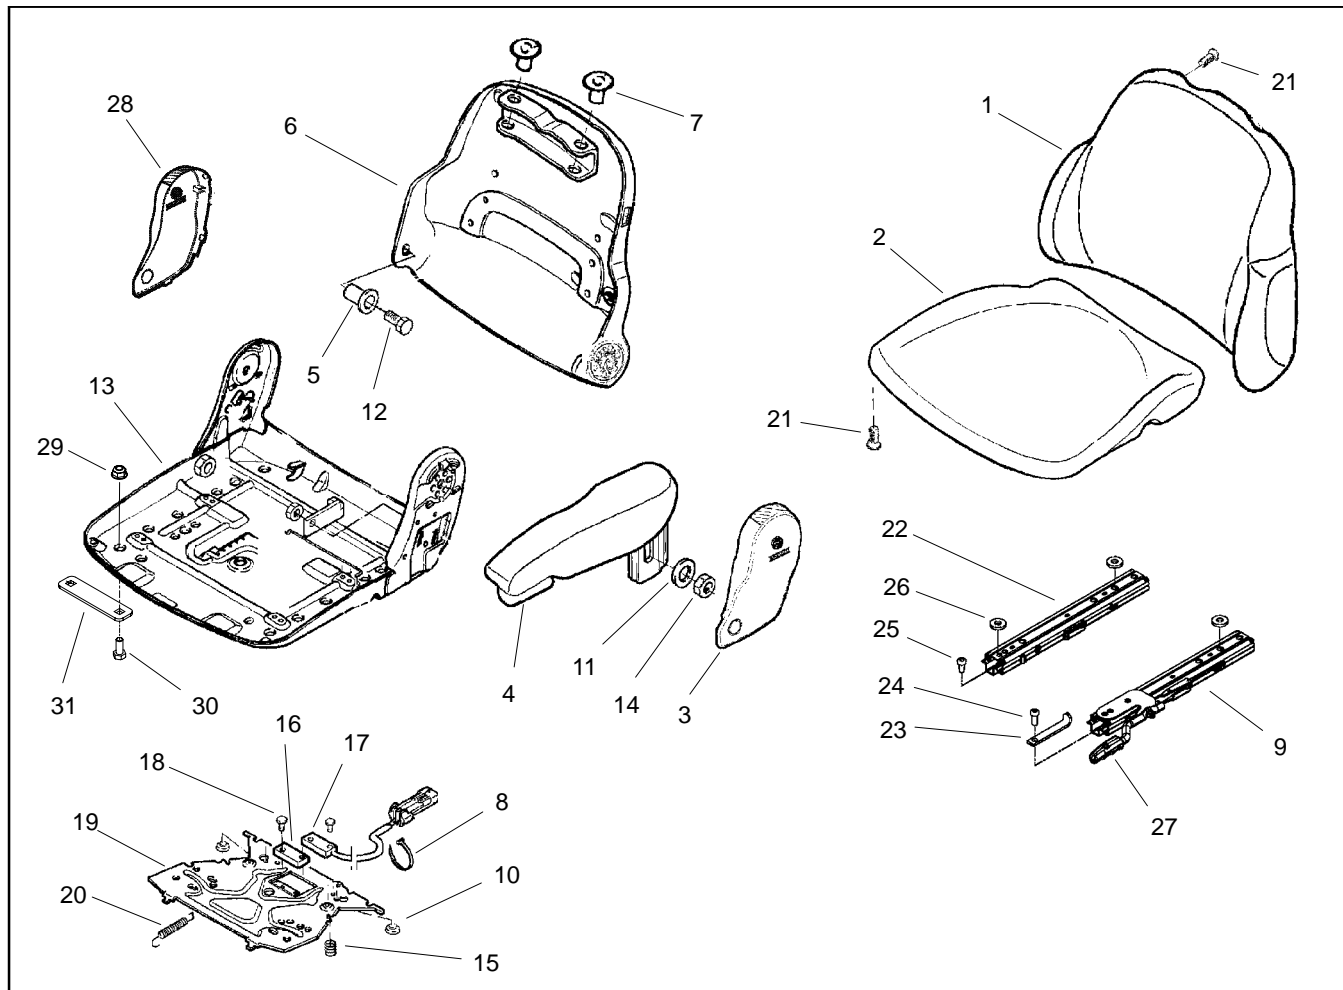

Figure 16
Disassembly (Fig. 16)
2. Disassemble operator seat as necessary using Figure 16 as a guide.
Assembly (Fig. 16)
1. Assemble operator seat using Figure 16 as a guide.